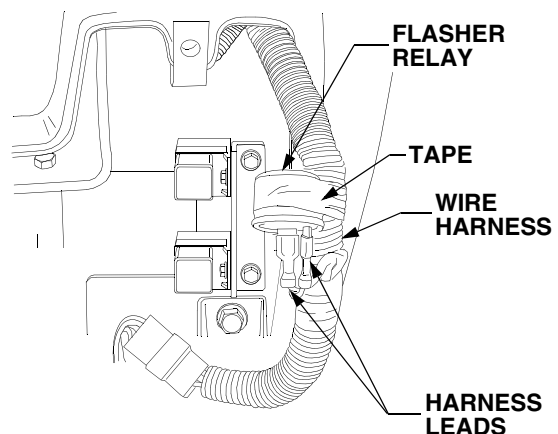

Figure 42
- Pull the wire harness from the right side of the dash opening and remove the electrical tape from the flasher relay. See Figure 42.